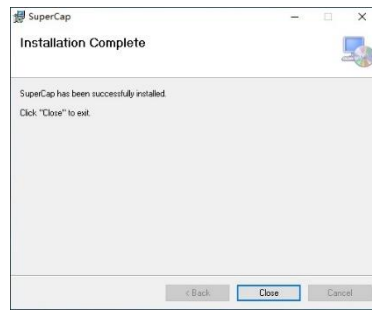

Figure 4-8: Installation Complete
Step 4: The Installation Complete window appears (Figure 4-8). Click **Finish** to exit.